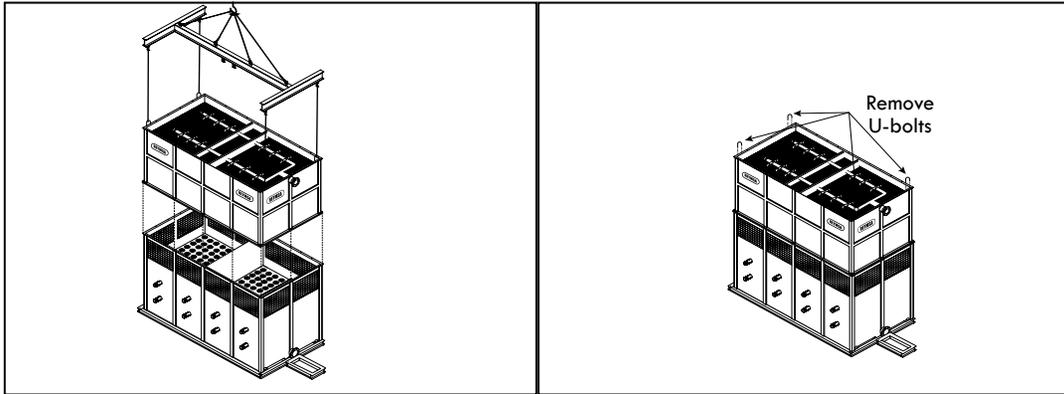

Figure A-30: Upper Body Section INSTALLATION for HFC-F models
I. Assemble the upper section with the lower section, the upper section comes assembled with u-bolts for lifting; then using a crane assemble both parts, use a guide pin to align bolt holes as the sections are being set (See figure A-30). Make sure that the recirculation water inlet, and the recirculation water outlet are on the same side of the tower when assembled.